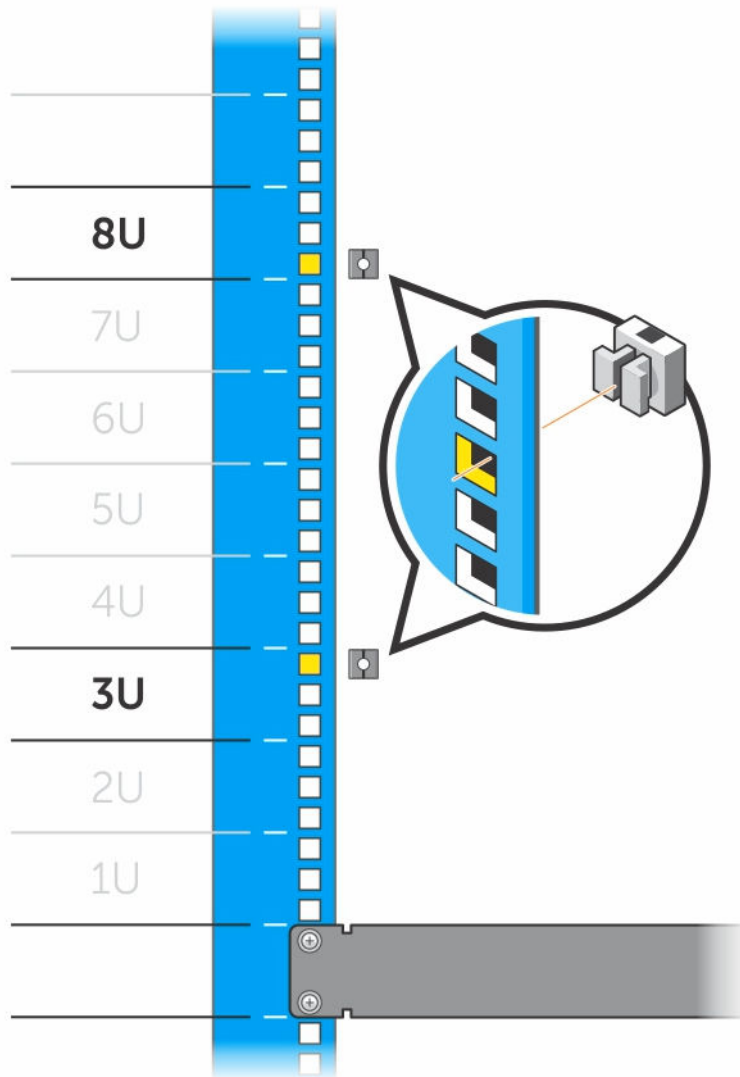

Figure 7. Installing Cage Nuts in a 4-Post Rack Before Mounting the Chassis
- On each post, install the lower cage nut in the top post hole 3 RUs above the rack bar; install the upper cage nut in the bottom post hole 5 RUs above the lower cage nut (8 RUs above the rack bar). Refer to Figure 7.